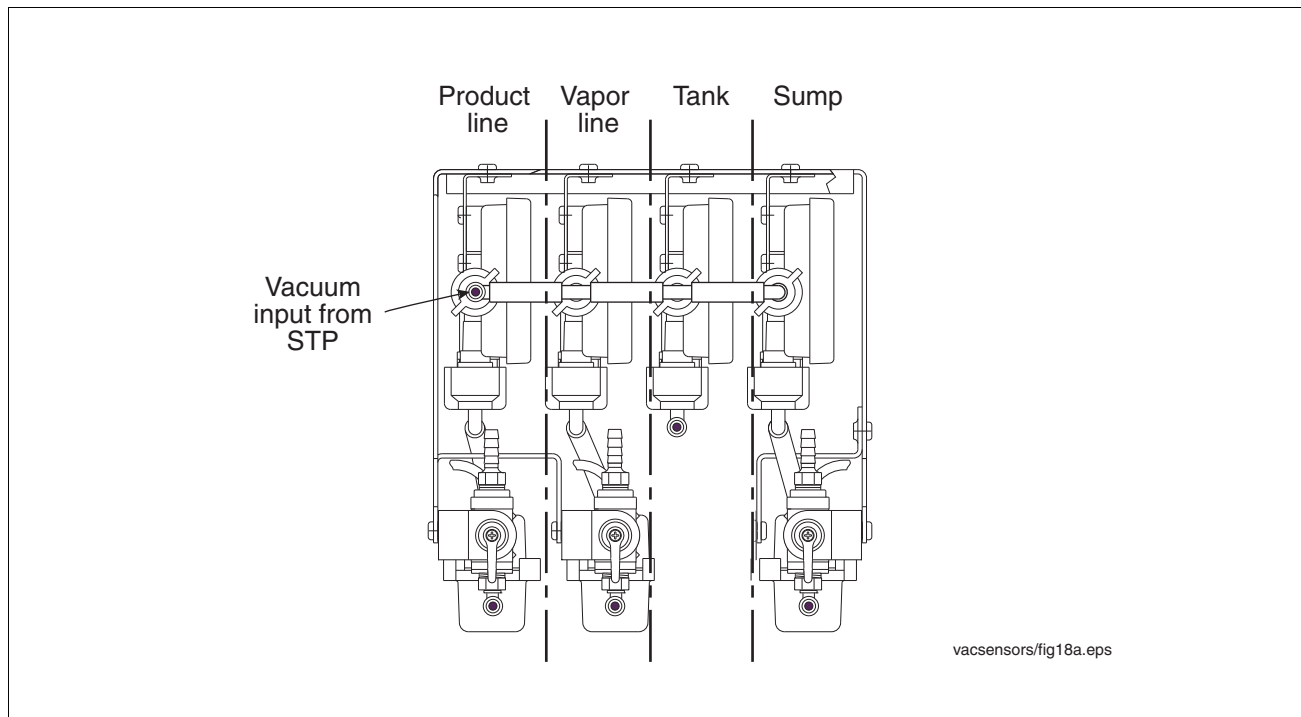

Figure 8. Identifying Vac Sensor/Vac Float pairs
1. Next get the Vac Sensor cables (with connectors on one end) from the kit(s) and attach the connector of each cable to each of the Vac Sensor ports labeled TLS (on the Vac Sensor cover). Uncoil each of the Vac Float cables. Notice that each Vac Sensor, except the one for the tank interstice, has a short piece of tubing connecting it to a Vac Float beneath it (Figure 8). A Vac Sensor/Vac Float tubing connected pair must be wired together in the junction box.